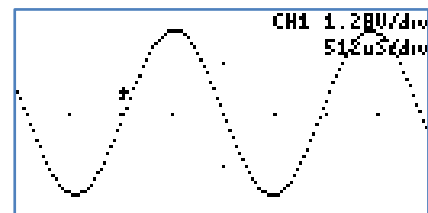

Figure 62: Pixel Display
- **Pixel:** A single pixel represents a sample. The pixel display is useful at slow sampling rates or when used in combination with the persistent mode. Figure 62 shows the pixel display.